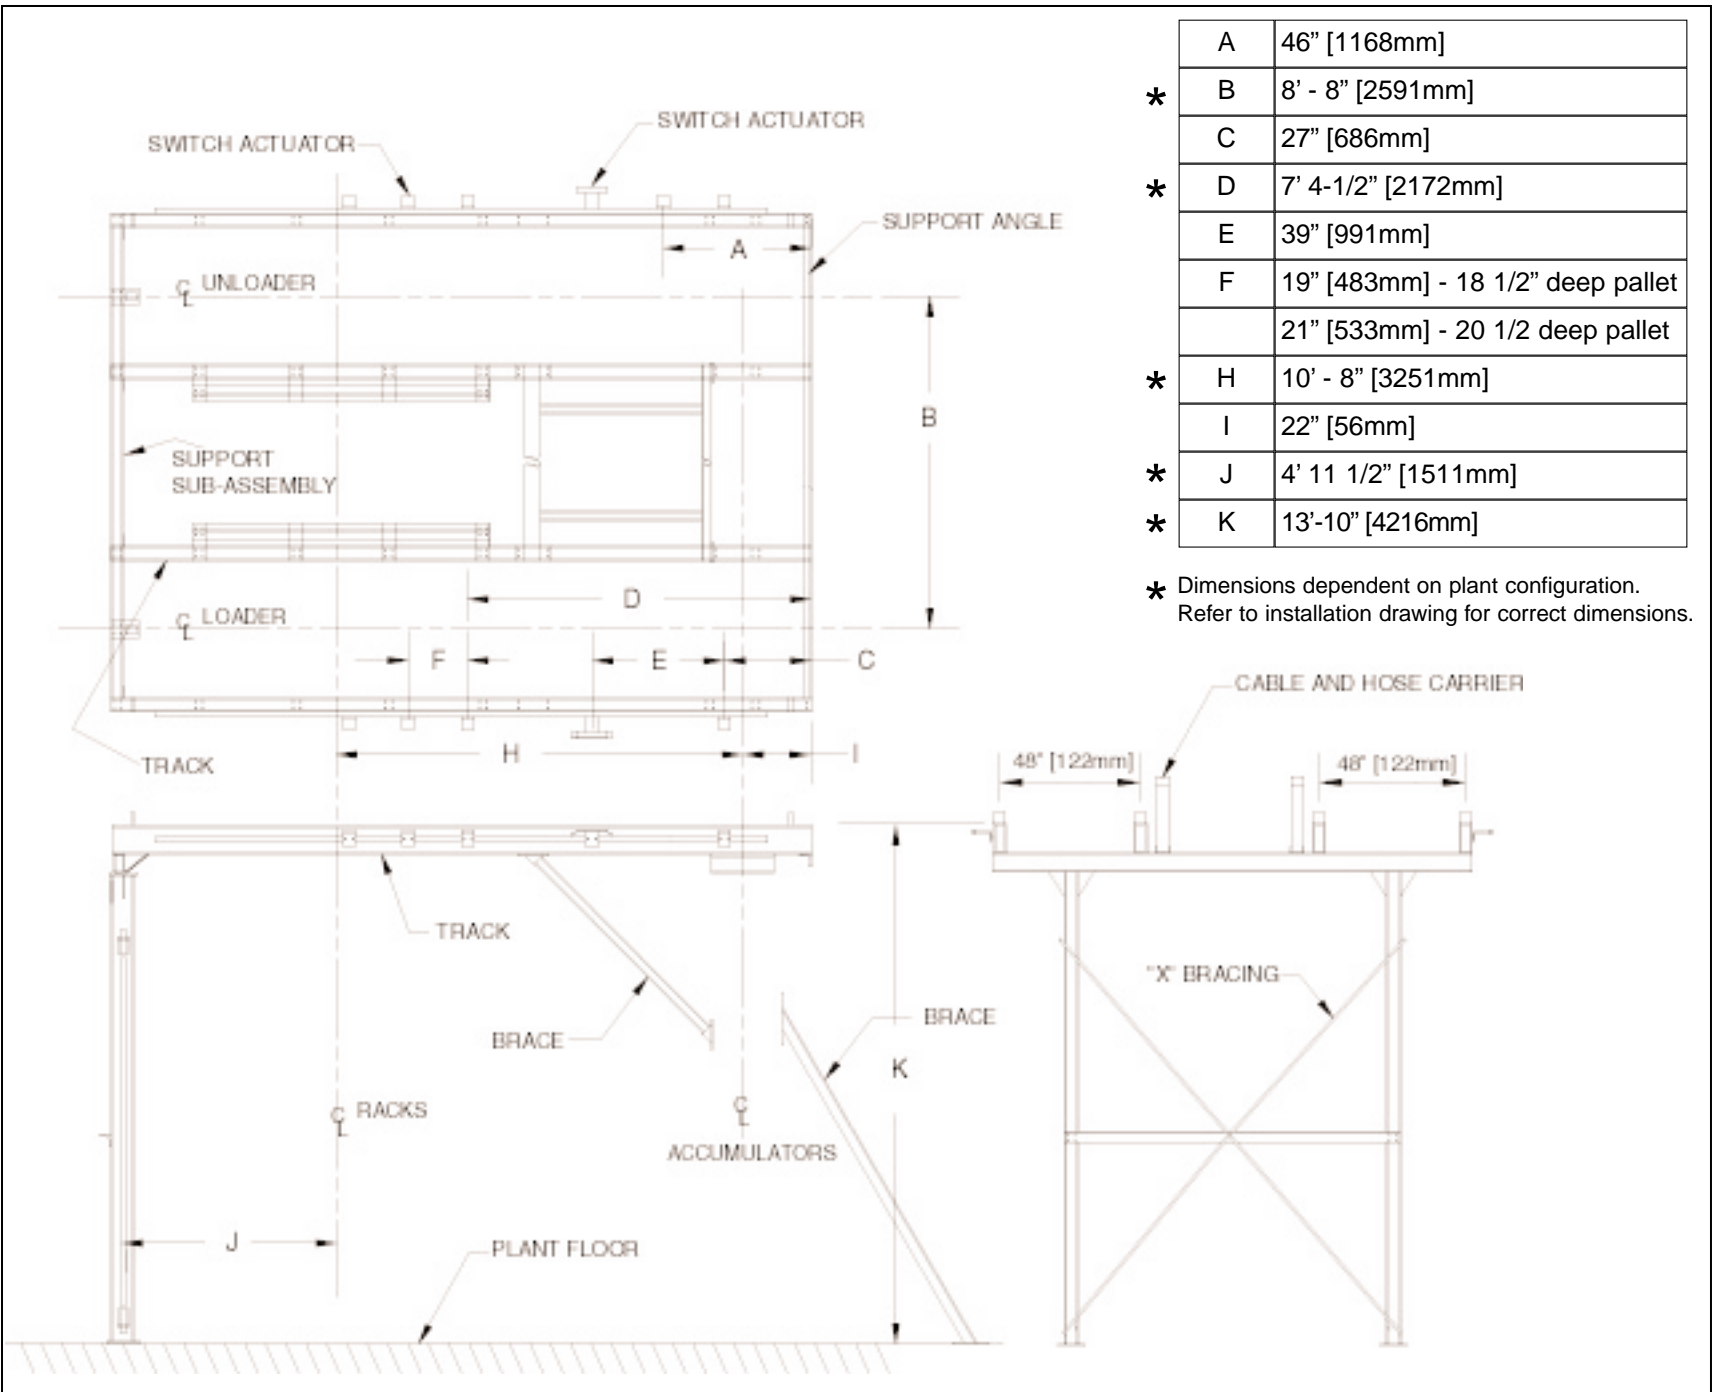

Figure 3.12 FRAME ASSEMBLY.
3. Anchor frame legs to floor with braces (see figure 3.12 on next page).